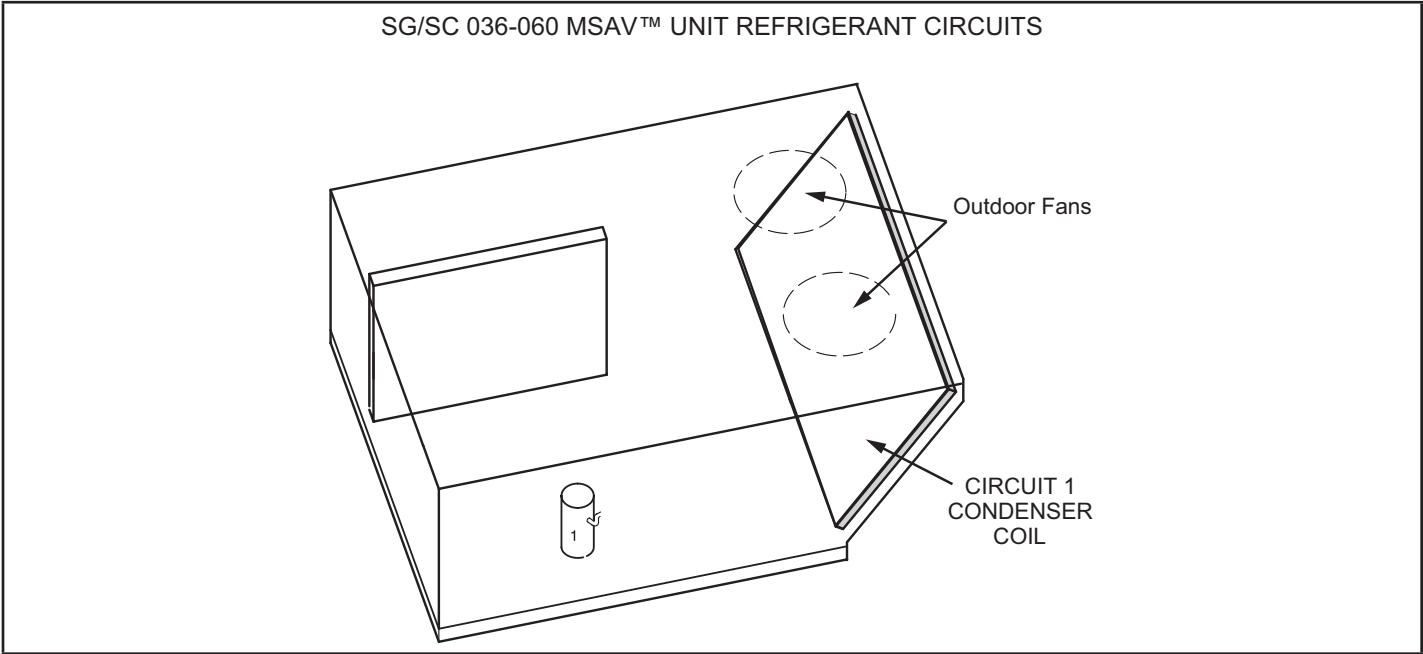

FIGURE 33
- 3 - *SG/SC 036-060 units* contain one refrigerant circuit and one stage of cooling. See FIGURE 33.